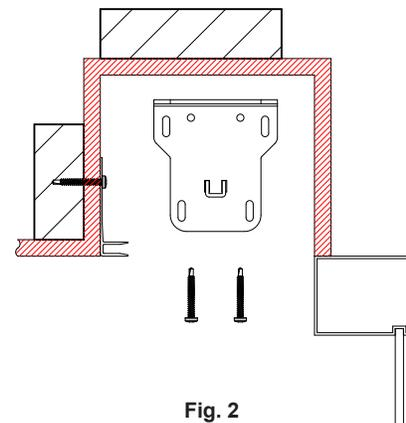

Fig. 2
- 2** For shades up to 120" in height, mount motor and idler bracket 3/4" off back of pocket. (Fig. 2) For shades with greater height or with tubes bigger than 2 1/2", increase this gap accordingly, ensuring Pocket dimensions are appropriately sized based on original project specifications.